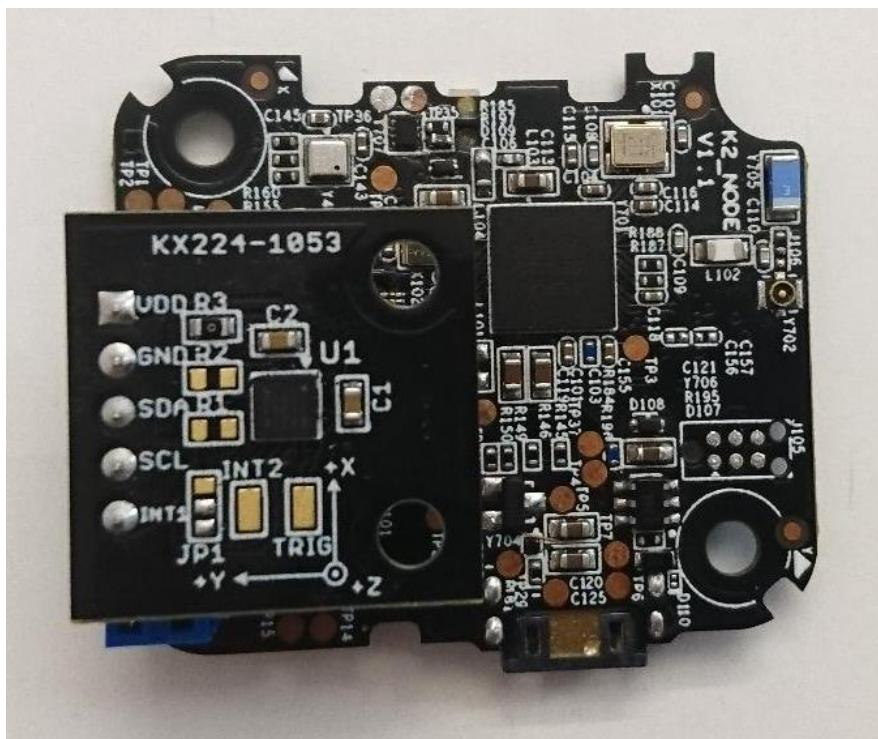

Figure 5: Correct placement of the Rohm sensor module on the Rohm 5+ connector
- Rohm 5+ connector. This connector is a combination of the Rohm 5-pin and Kionix 14-pin connectors. With suitable SW and HW controls, the evaluation boards of Rohm and Kionix can be connected directly to the connector. Connector specifications are presented in Table 7, and the correct placement of the sensor board is shown in Figure 5. Pins marked with yellow color in Table 7 are for the Rohm sensor module, see Figure 5.